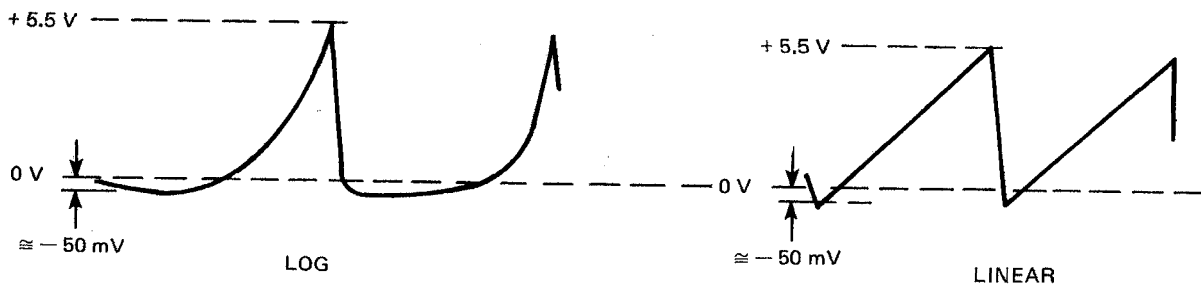

Figure 6-10. GCV Output
6. Confirm the waveforms shown in Fig. 6-10.